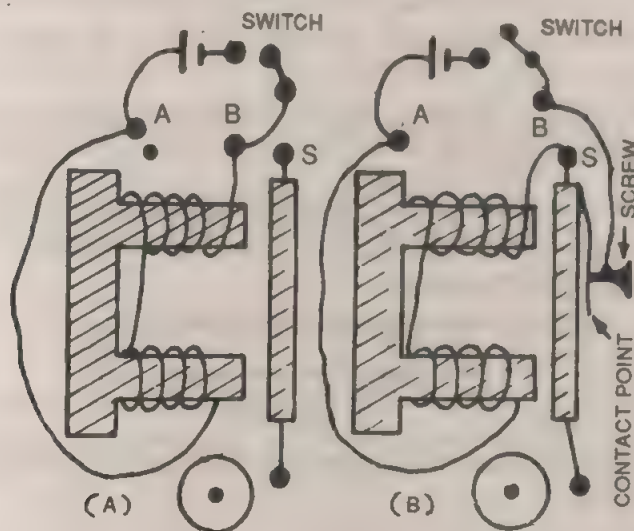

Fig. 7.29
20. (i) Fig. 7.29 (A) shows a primitive form of electrical bell. What happens when the switch is closed and why ?
(ii) In Fig. 7.29 (B) some extra parts have been added as shown. What happens now when the switch is closed and why ?